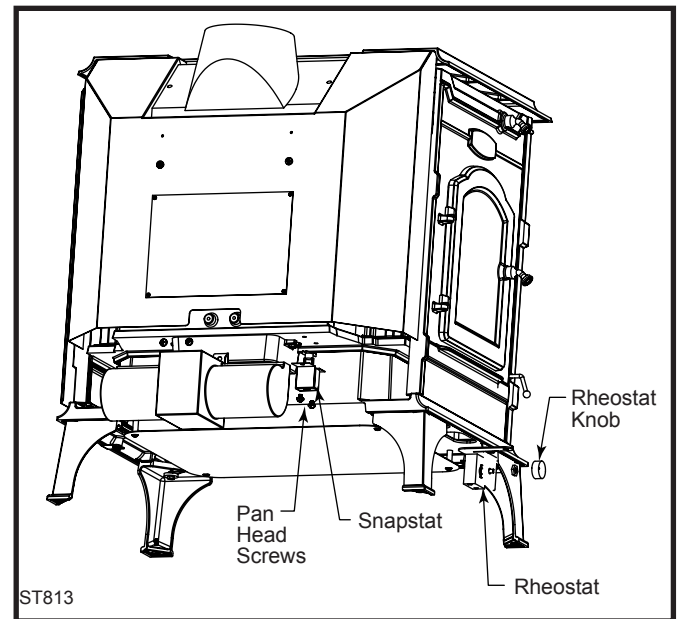

Fig. 22 Fan installation.
1. Secure the fan assembly to the inner back with two (2) 1/4-20 x 3/4" hex head screws and one (1) 1/4" star washer as shown in Figure 22.
2. Attach snapstat to the mounting holes on the underside of the bottom with two (2) 1/4-20 pan head screws.